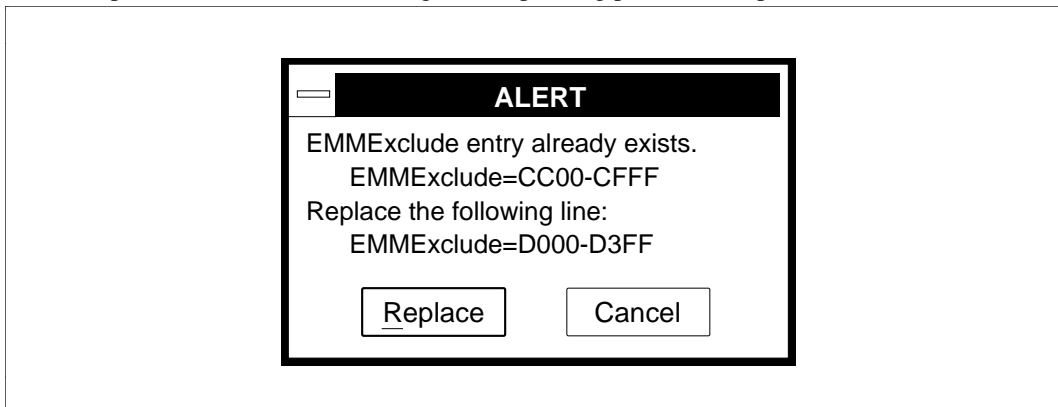

Figure 2-9 Dialog Box for Confirmation of Memory Address Specification Range Rewrite (INSTALL)
- (13) To add to the Windows system file SYSTEM.INI the memory address range for the IBM PC interface board, click the <Change> button. The file before adding the memory address is saved as SYSTEM.GUI. To terminate the installer program without changing the SYSTEM.INI file, click the <Cancel> button. In this case, change the SYSTEM.INI file using the procedure described in section 2.5, Modifying System Files.
- (14) To add the memory address range for the IBM PC interface board, the EMMExclude parameter of the SYSTEM.INI file is used. If the memory address range has already been specified, a rewrite confirmation dialog box is displayed, as shown in figure 2-9. Select <Replace> or <Cancel> according to the operating personal computer.